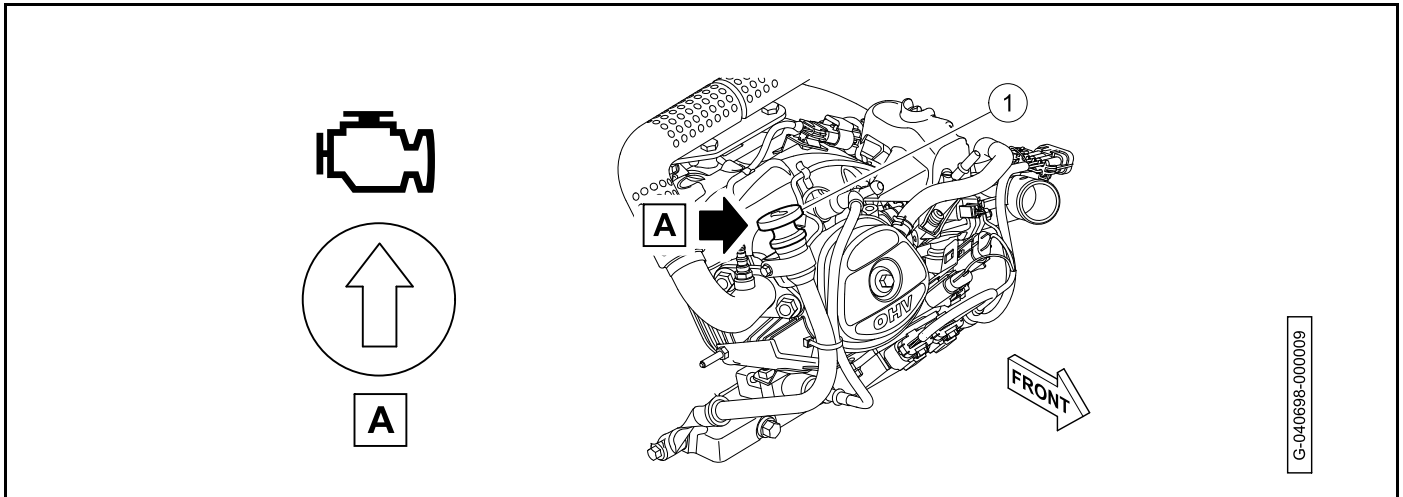

Figure 10-9 Dipstick
1. Remove the dipstick (1) (**Figure 10-9, Page 10-15**).